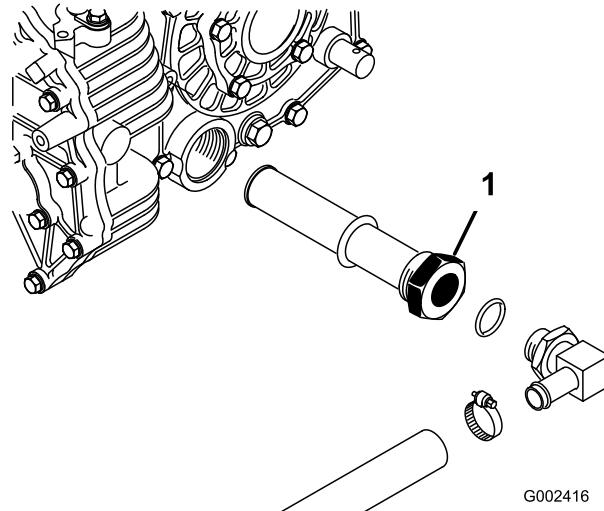

Figure 63
3. Note the orientation of the hydraulic hose and 90° fitting connected to the strainer on the side of the reservoir (Figure 63).